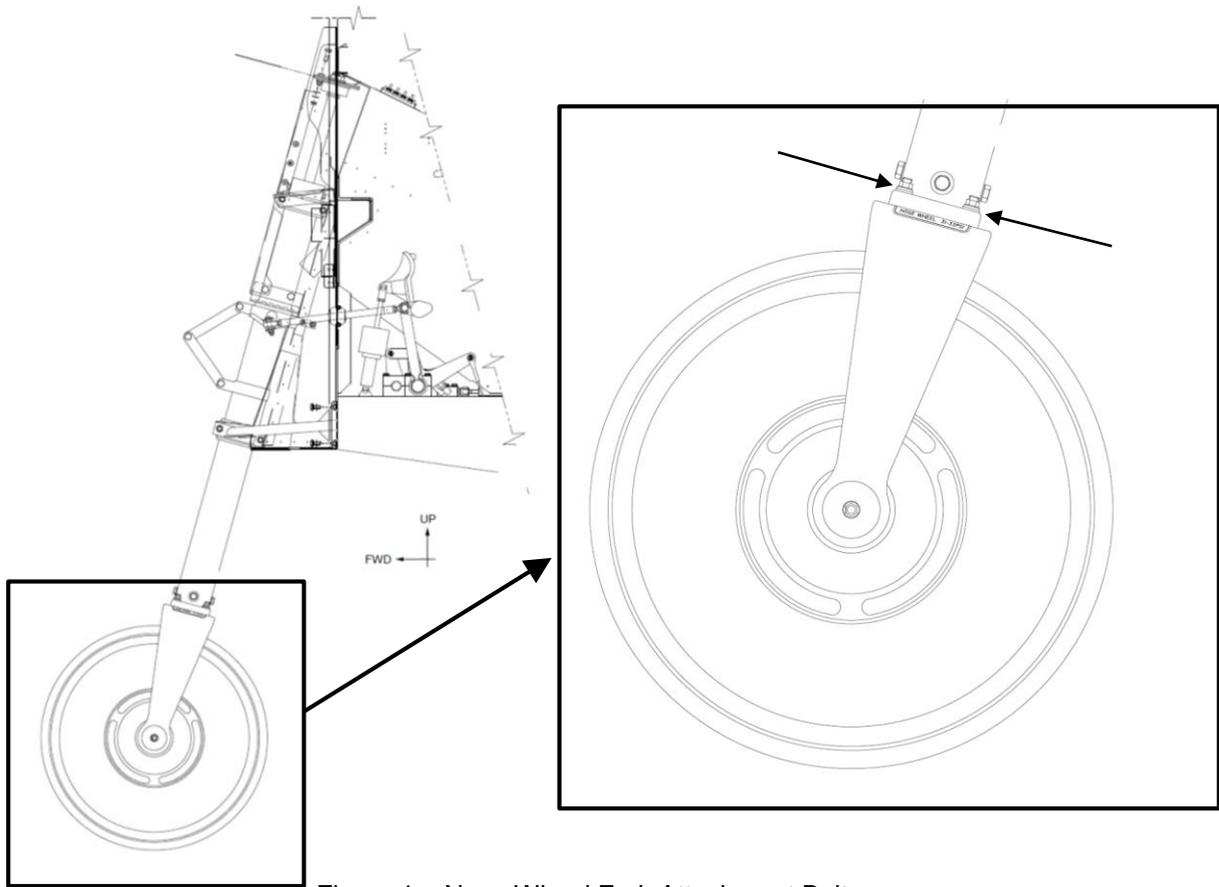

Figure 1 – Nose Wheel Fork Attachment Bolts
- ii. In accordance with Chapter 20 of the appropriate GA8 Airplane Service Manual, torque the four (4) 5/16" fasteners holding the nose wheel fork to the nose leg assembly (shown in Figure 1).